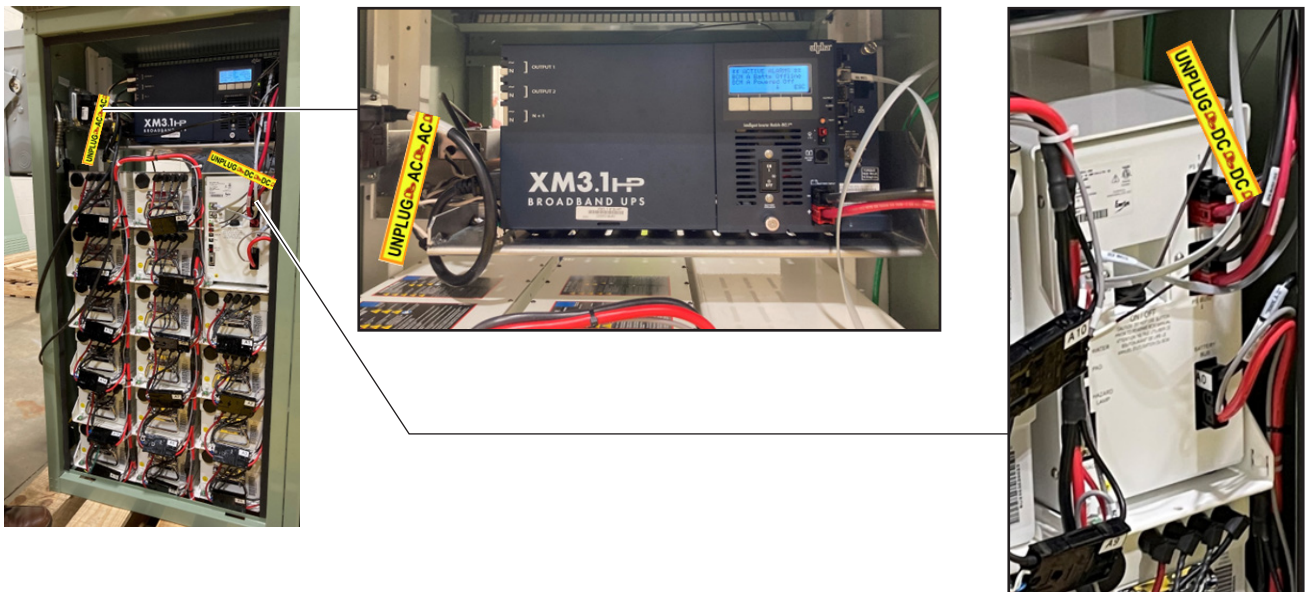

Fig. 5-30, Unplug AC and Unplug DC Label Locations
7. Add UNPLUG AC and UNPLUG DC labels to their corresponding cables (Fig. 5-30).